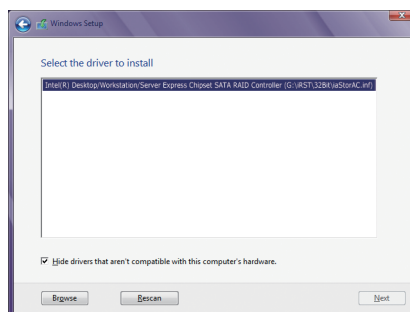

Figure 1
When a screen as shown in Figure 1 appears, select **Intel(R) Desktop/Workstation/Server Express Chipset SATA RAID Controller** and click **Next** to load the driver and continue the OS installation.